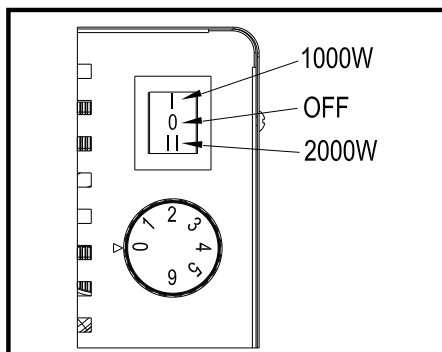

Fig. 2
Make sure the power supply cable has not been damaged. If the supply cord is damaged, it must be replaced by the manufacturer, its service agent or similarly qualified persons in order to avoid a hazard. Moreover, check if the technical parameters of power supply source comply with the requirements specified on the rating plate. Place the appliance in its upright position. Make sure the switch is in its "0" position shown in Fig. 2. Connect the heater to the power supply source.
- ▶ 1st degree of heating: Fig. 2, and
- ▶ 2nd degree of heating: Fig. 2.